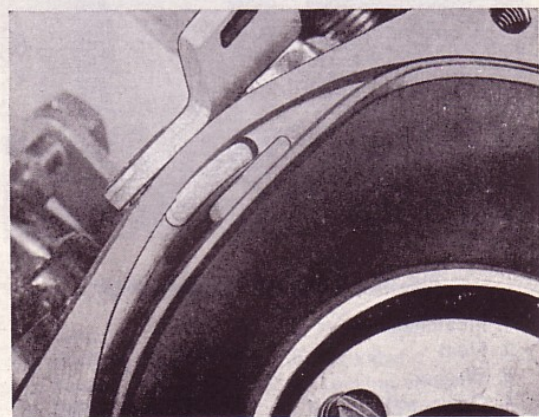

Fig. 93. Diaphragm fitted in carburettor body
3. Fit the valve with the diaphragm into the main carburettor body. Make sure that the tag fits into the corresponding recess in the body (see Fig. 93) (distorted diaphragm, see above). Carefully fit on the suction chamber according to the alignment marks. The slit and guiding edge should fit easily, otherwise the chamber should be replaced. Screw it down.